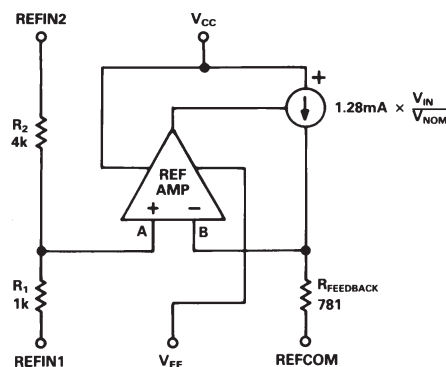
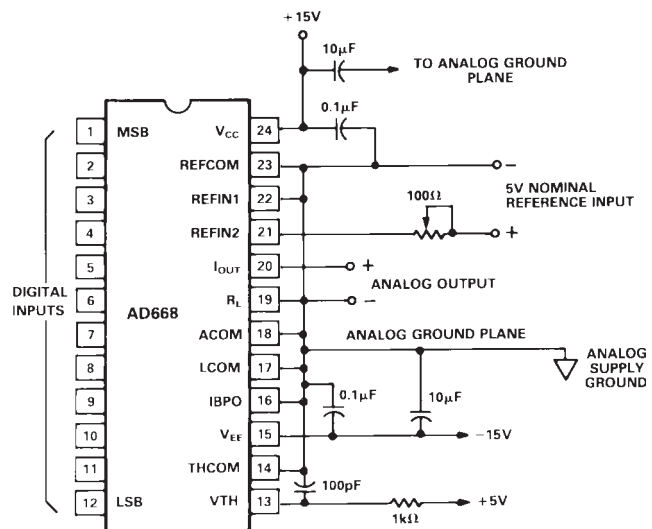

Figure 5. Equivalent Analog Input Circuitry
Figure 7. 5 V REFIN/1 V Unbuffered Unipolar Output
The reference input buffer can be viewed as a resistive divider connected to one terminal of an op amp, as shown in Figure 5. A unit DAC current source drives a resistor to produce a voltage that is fed back to the opposite terminal of the op amp. Resistor  $R_{FEEDBACK}$  is laser-trimmed to ensure that a 1 V input to node A of the op amp will produce a 10.24 mA DAC output.  $REFIN1$  and  $REFIN2$  may be configured in any way the user chooses to provide a nominal input full scale of 1 V at node A.  $R1$  and  $R2$  are sized and trimmed to provide both a 5:1 voltage divider and a parallel impedance that matches the impedance at node B, thereby reducing the amplifier offset voltage due to bias current. The resistive divider is trimmed with an external 50  $\Omega$  resistor in series with the 4k leg ( $R2$ ). This provides a gain trim range of  $\pm 1\%$  using a 100  $\Omega$  trim potentiometer (Figure 7). If trimming is not desired, a 50  $\Omega$  resistor may be used in place of the potentiometer to produce the specified gain accuracy, or the resistor may be omitted altogether to produce a nominal gain error of +1%.
**REFCOM** – this node provides the reference ground for the reference amplifier's current feedback loop (as illustrated in Figure 5) as well as providing the negative supply voltage for most of the reference amplifier. The current consists of 1.2 mA of analog input dependent current and another 3 mA of input independent current. Analog input voltages should always be produced with respect to this voltage.
**REFIN1** – has a 1k series resistance to the reference amplifier input and a 5k series resistance to REFIN2. REFIN1 may be used in conjunction with REFIN2 to provide a 5:1 voltage divider, or the two may be driven in parallel to provide a high impedance input node (see Figure 5).
Figure 7 shows a typical topology for generating an unbuffered voltage output. RL (Pin 19) is grounded, producing a 100  $\Omega$
The input divider has been connected to produce a 5 V full scale reference input by shorting REFIN1 to the analog ground plane and using REFIN2 as the reference input. With a 5 V nominal full scale, the 10% to 120% reference input range falls between 0.5 V and 6 V. The effective input resistance in this mode is 5 k $\Omega$  ( $\pm 20\%$ ). The ratio of the input divider has been intentionally skewed by 50  $\Omega$  to provide an optional external fine trim for gain adjust. A trim range of  $\pm 1\%$  is provided by the 100  $\Omega$  trimming potentiometer shown in Figure 7. If trimming is not desired, a 50  $\Omega$  resistor may be used in place of the potentiometer to produce the specified gain accuracy, or, if a  $\pm 1\%$  nominal gain error is tolerable, the resistor may be omitted altogether.